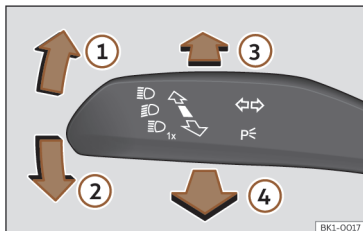

Fig. 88 Turn signal and main beam lever (depending on the version).
- From the base position, press the turn signal and main beam headlights lever forwards >>> **Fig. 88 (3)**.
- **EITHER:** if main beam assist is on, pull the turn signal light and main beam headlights lever back >>> **Fig. 88 (4)**.